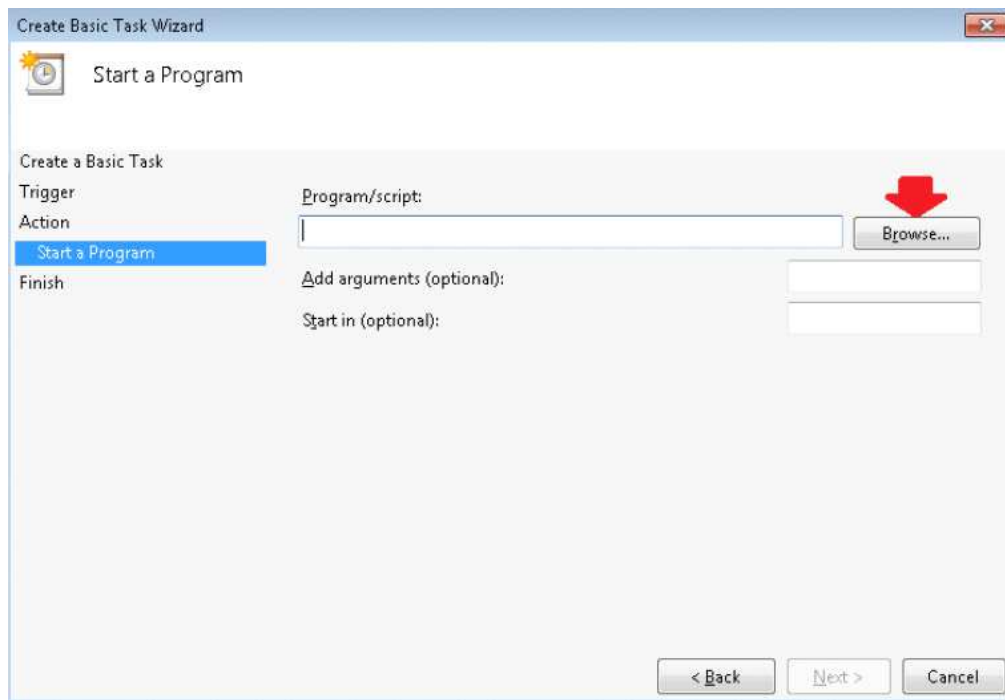

Fig. C.39: Start a Program window
STEP 6 – In *Create Basic Task Wizard* window in *Start a Program* window please click on *Browse...* button (Fig. C.39).